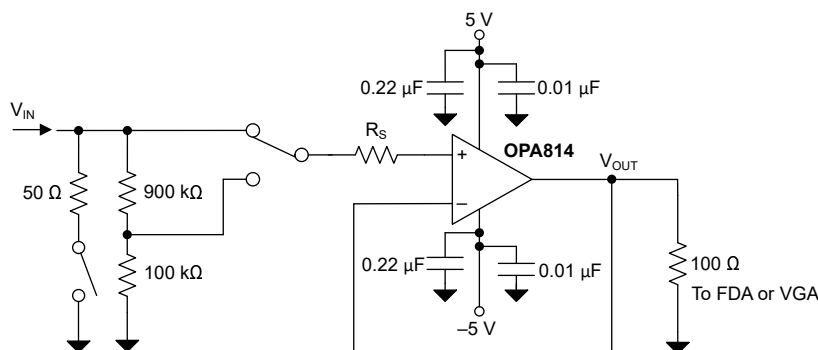
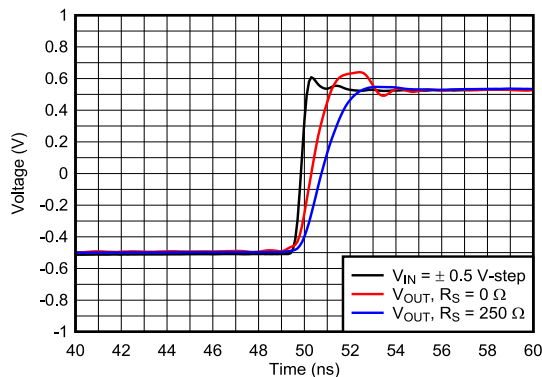
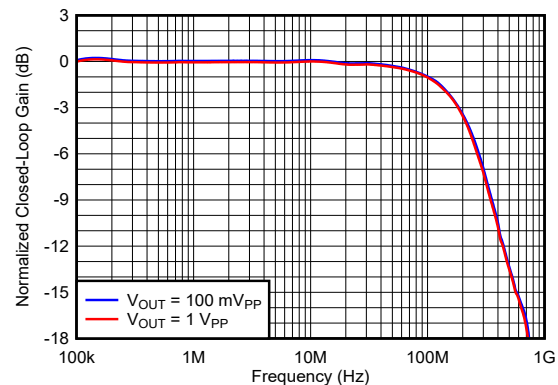

Figure 8-4. High-Input-Impedance, 180-MHz, Digitizer Front-End Amplifier
Figure 8-5. Step Response of Digitizer Front-End
Figure 8-6. Frequency Response for $R_S = 250 \, \Omega$
- Optimizing Overshoot:** The OPA814 features an internal slew-boost circuit to deliver fast rise-time in applications that require high slew rates, such as when configured as a transimpedance amplifier. For applications where overshoot must be limited, limit the input slew rates by introducing a series resistance (R_S); see also Figure 8-4. Resistor R_S forms a low-pass filter with an input capacitance of approximately 2.5 pF at the noninverting pin of the OPA814, thus limiting the input slew rate to the amplifier. Figure 8-5 shows how limiting the input slew rate to the amplifier results in good overshoot performance. Figure 8-6 shows how this configuration achieves a small-signal and large-signal bandwidth of 180 MHz.